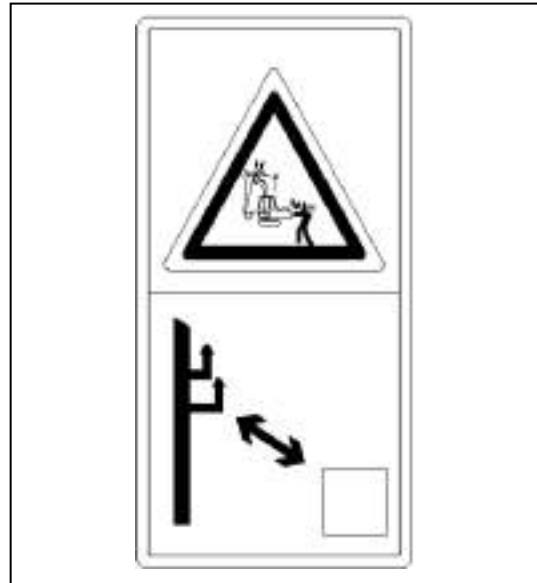

Figure 1-18 High-voltage warning
(17) High-voltage warning, as shown in Figure 1-18.